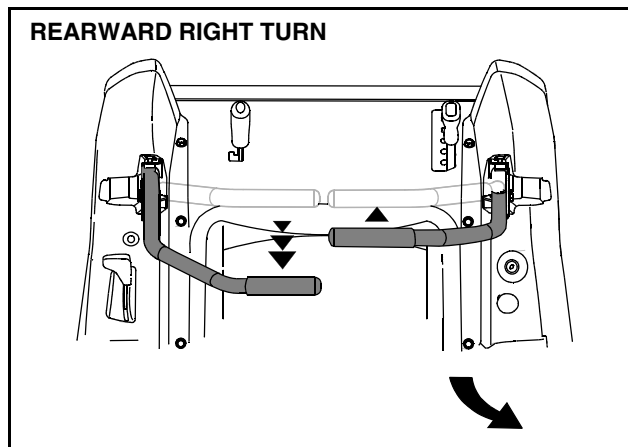

Figure 16
- To turn to the right while traveling in reverse, move the right drive control lever forward of the left lever. See Figure 16.